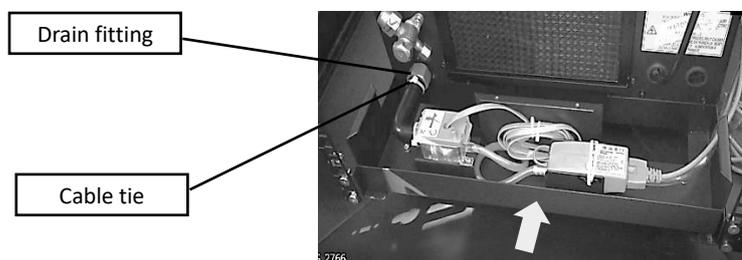

Figure 3-18 Installation of The Pump Kit
4. Slide the pump bracket part 1 on L-shape mounting rail, as shown in **Figure 3-18**.
5. Install L-shape pipe to drain fitting, and fix it with a cable tie, as shown in **Figure 3-18**.